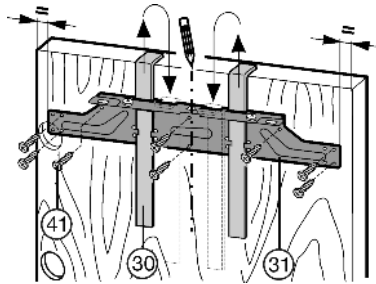

Fig. 21
- ▶ Unscrew the cross-piece Fig. 21 (31) by undoing the lock-nuts Fig. 21 (32).
- ▶ Attach the cross-piece Fig. 21 (31) together with the assembly aids Fig. 21 (30) to the inside of the unit door.
- ▶ Concentrically align the crosspiece Fig. 21 (31): Mark a short centre line on the unit door and put the tip of the arrow on the crosspiece over it.
- ▶ Tightly screw the crosspiece Fig. 21 (31) into place using at least 6 screws Fig. 21 (41).
- ▶ Tightly screw the crosspiece Fig. 21 (31) into place using 4 screws Fig. 21 (41) at the edge.
- ▶ Raise and remove the assembly aids Fig. 21 (30), turn them and slide them into the adjacent openings.